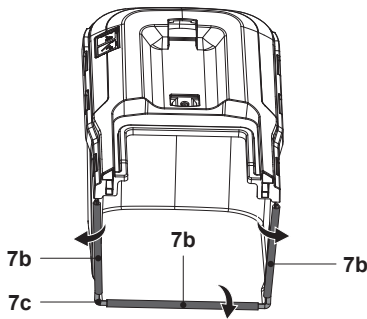

Fig. 5
- Clip the three rubber clips (7b) onto the supporting rod (7c) of the grass catcher (7) (Fig. 5).